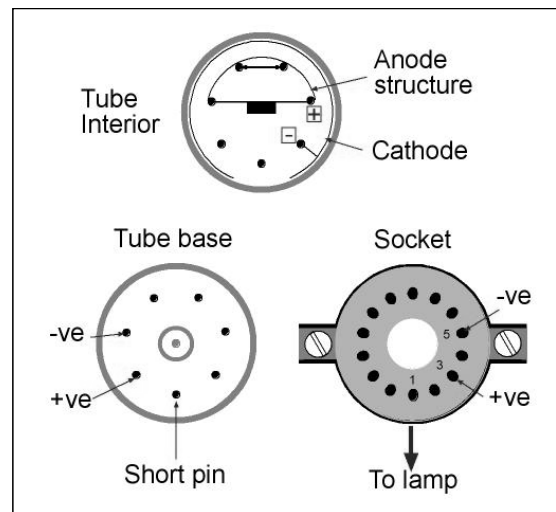

Figure 6
- The GD-51 mixed metal cathode phototube supplied is a diode structure in an envelope with a 7-pin base (see *Figure 6*) A metal shield around the inside of the envelope admits light only through a window in the front. The cathode is on the inside surface of the shield. The anode structure contains a gettering device used during tube manufacture.
- *Figure 6* also shows the tube base viewed from the bottom and identifies the anode and cathode pins.
- The tube socket in the light tight box is also shown in *Figure 6*. It is a 14-pin socket with alternate pin sockets occupied and empty when the tube is in place.
- Check that the tube is correctly seated in its socket (see *Figure 6*, Section 5.1)